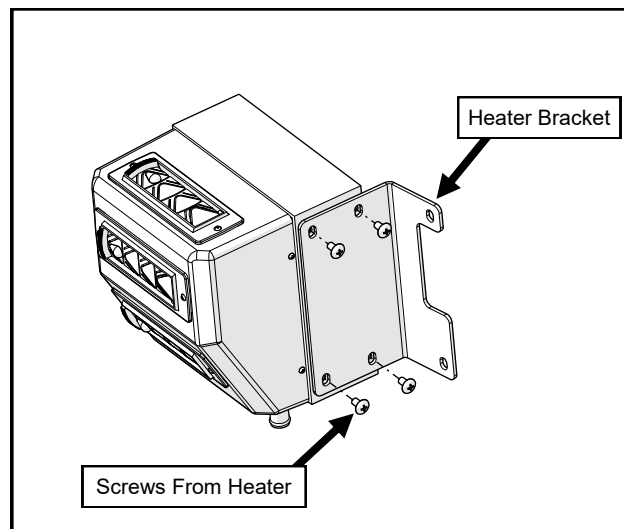

Fig. 14.1 (Pre-Assemble Heater to Bracket)
14.1 Pre-assemble the heater bracket onto the heater using the screws already installed on the side of the heater. See Figure 14.1. Tighten hardware.